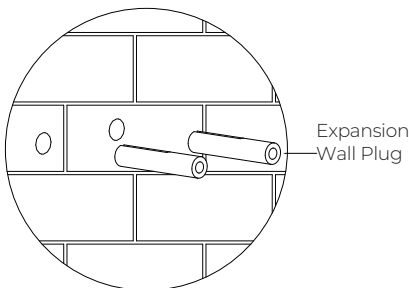

Fig. 5-2-3
Step 2: Hammer the expansion wall plug in until it's flush with the wall. See Fig.5-2-3.